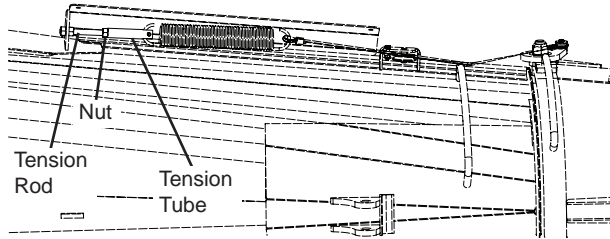

Figure 107
4. Loosen the nuts on the tension rod during the adjustment (Figure 107).
5. Use a pair of vice grips or other suitable tool to hold the tension tube and turn the tension rod clockwise to increase the tension or counter-clockwise to reduce the tension (Figure 107).